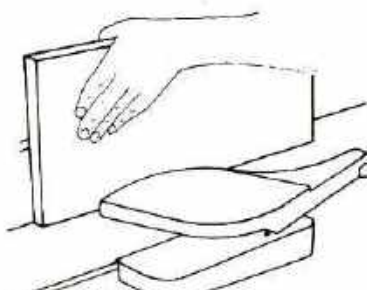

Fig.663 JOINTING AN EDGE
5. Hold the board against the fence firmly with both hands and slowly push it over the cutter head. Fig.663